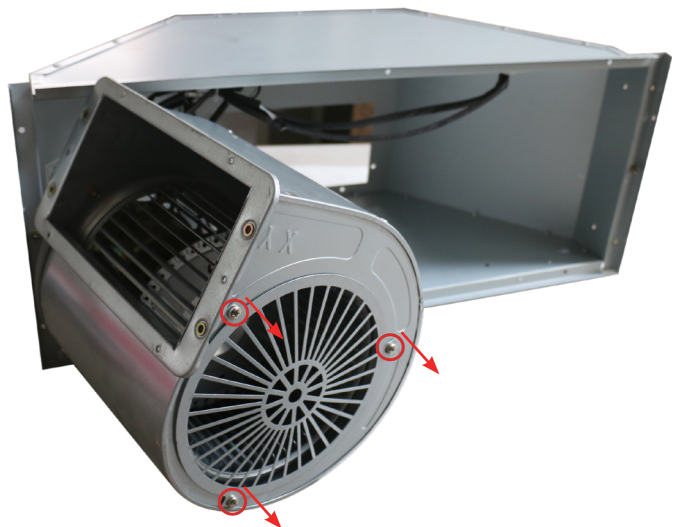

Figure 6
- Remove all 3 screws and the side grille. (Figure 6)